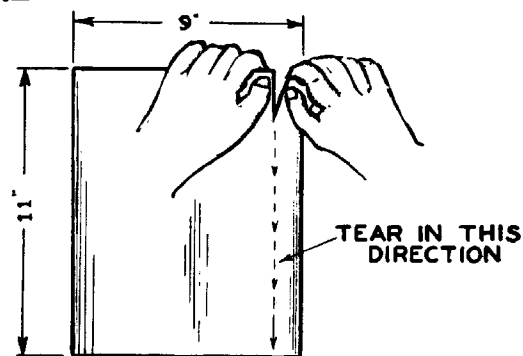

FIG. 1 TEARING A STRIP OF EMERY CLOTH
2. Tear off a narrow strip of cloth from the long edge of the sheet, wide enough to cover the width of the file to be used. (Fig. 1).